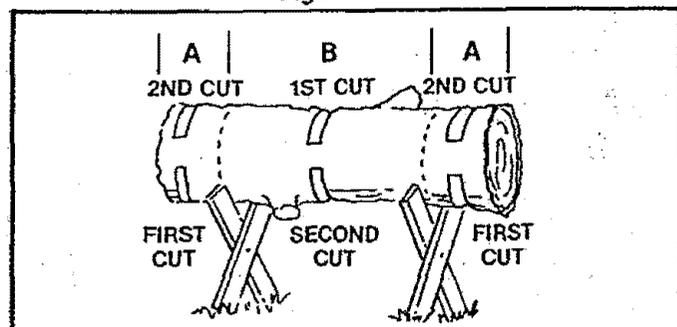

Figure 36
3. BUCKING — USING A STAND (Figure 36)